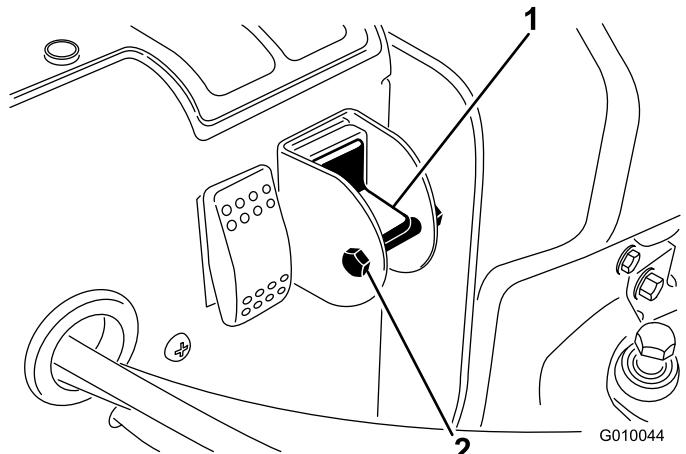

Figure 30
3. Remove locking bolt and nut from selector switch (Figure 30).